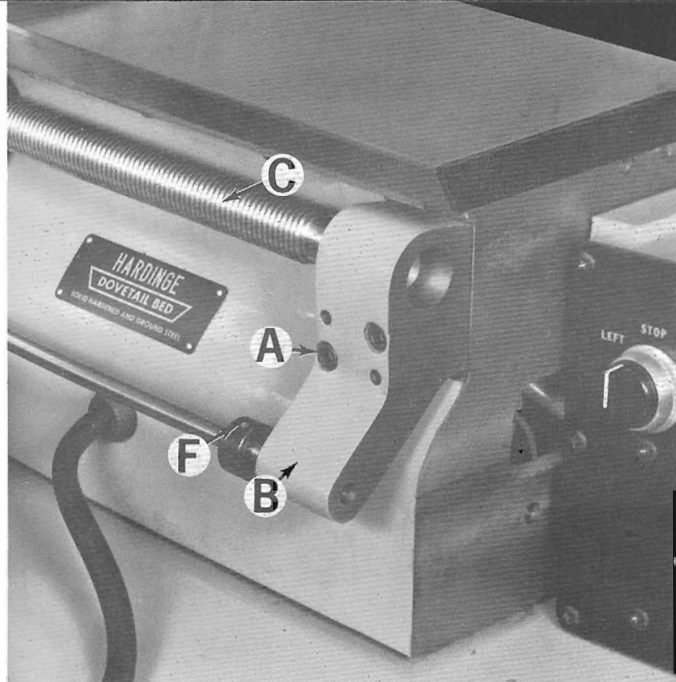

Figure 136 — Lead Screw and Bracket
4. Remove two screws "A", Figure 136, and remove lead screw bracket "B" and shims. Remove bracket straight out until dowel pins clear and then to the right to clear lead screw and stop rod.
1. Remove tailstock assembly. Remove taper pin from positive stop "F", Figure 136.
3. Remove positive stop, "F", Figure 136.
8. Replace tailstock assembly. Replace positive stop "F", Figure 136.
10. Replace taper pin in positive stop "F", Figure 136.
3. Remove positive stop "F", Figure 136.